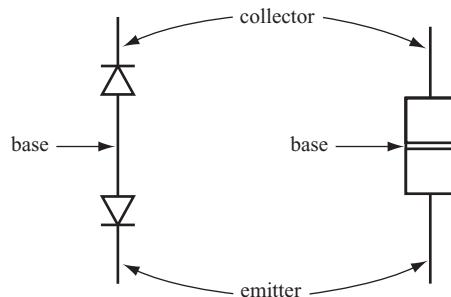

FIGURE 3.4
- 4** The three terminals of a transistor (the base, the emitter, and the collector) connect, as shown in Figure 3.4.